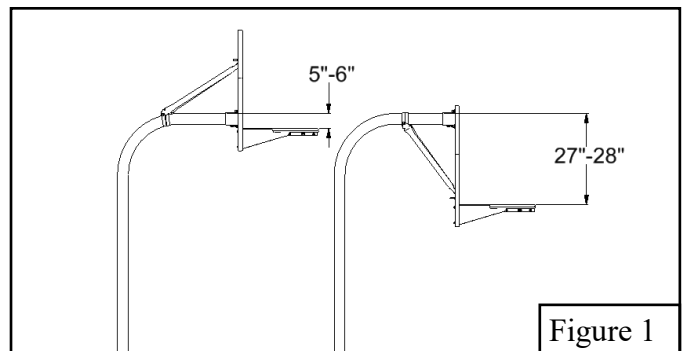

Figure 1
1. The height of the *Rim* (R) when attached to the *BA495 Fan Steel Backboard* (A) can be adjusted below the top of the horizontal extension of the existing pole between 5" and 28" depending on the diameter of your pole when using the retrofit kit to achieve a lower *Rim* (R) height. See Figure 1.